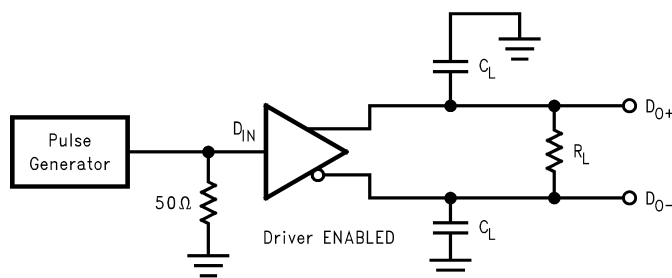
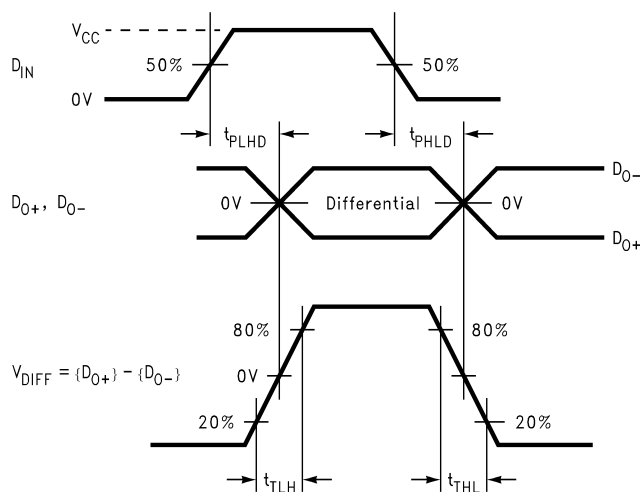

Figure 5. Differential Driver Propagation Delay and Transition Time Test Circuit
Figure 6. Differential Driver Propagation Delay and Transition Time Waveforms
| t PHLD                         | Differential Prop. Delay High to Low (2)                      | R L = 27Ω,See Figure 5 and Figure 6C L = 10 pF | 1.0 | 1.8  | 2.6  | ns    |